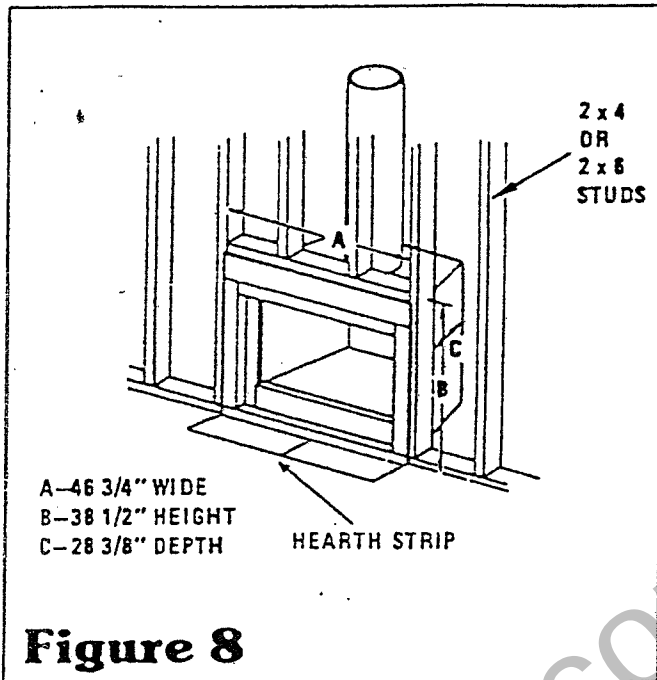

Figure 8
(See Figure 8). The dimensions shown on Page 5 may be used to construct the fireplace opening.
Step 1 Frame cavity (closet) or opening for fireplace at chosen location (Figure 8).